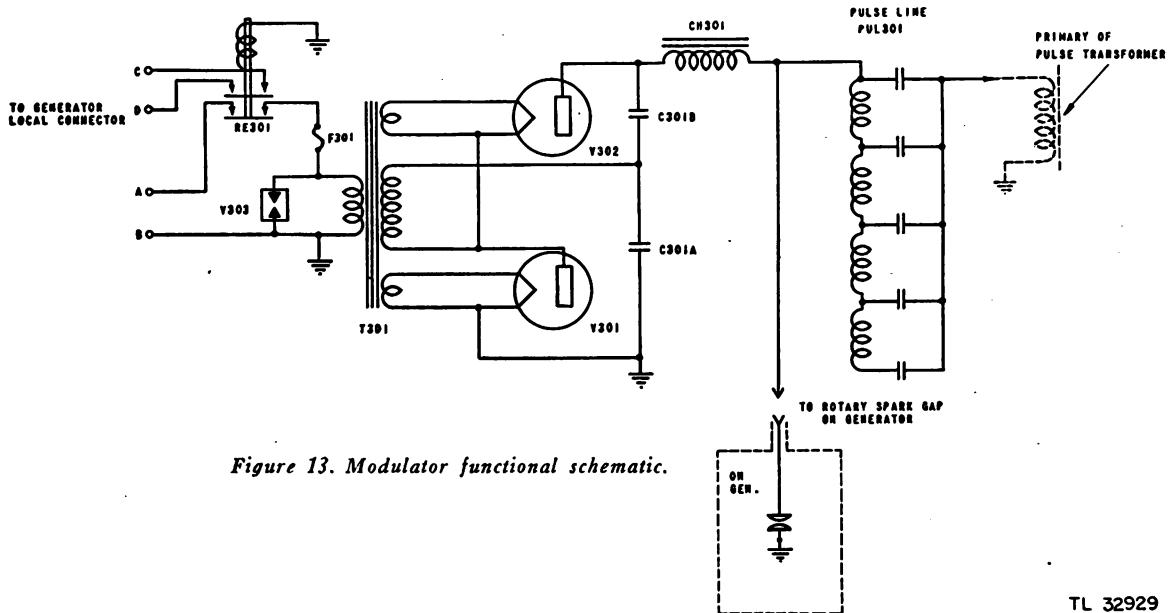
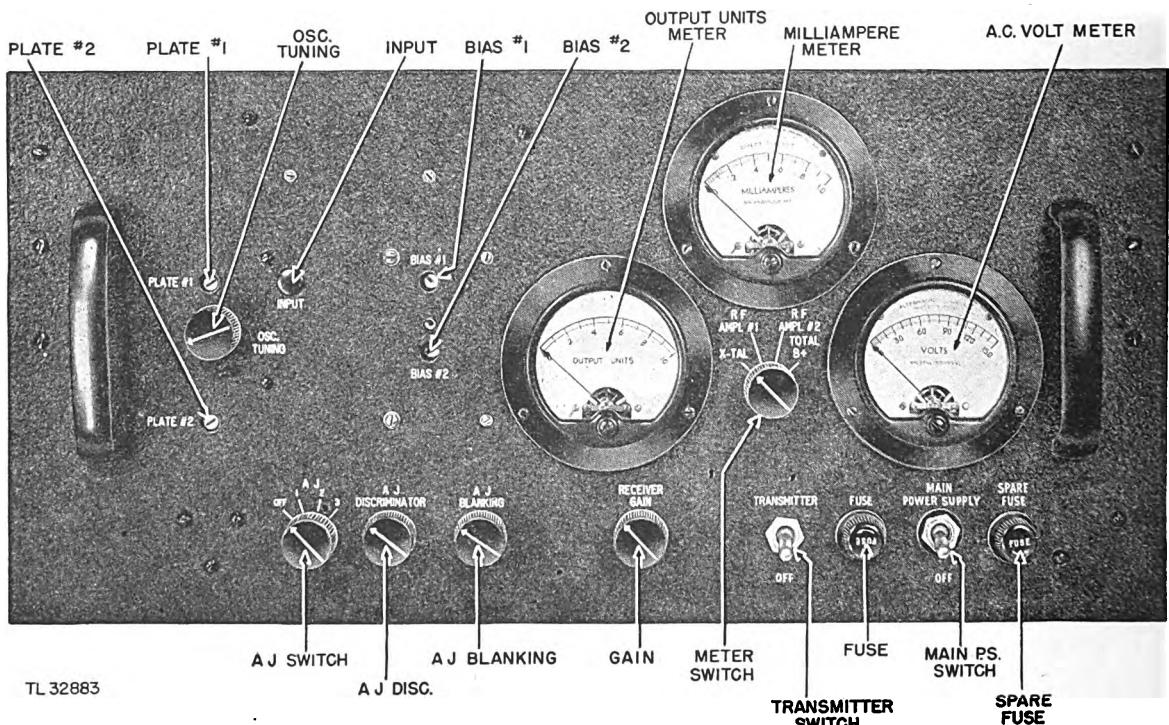
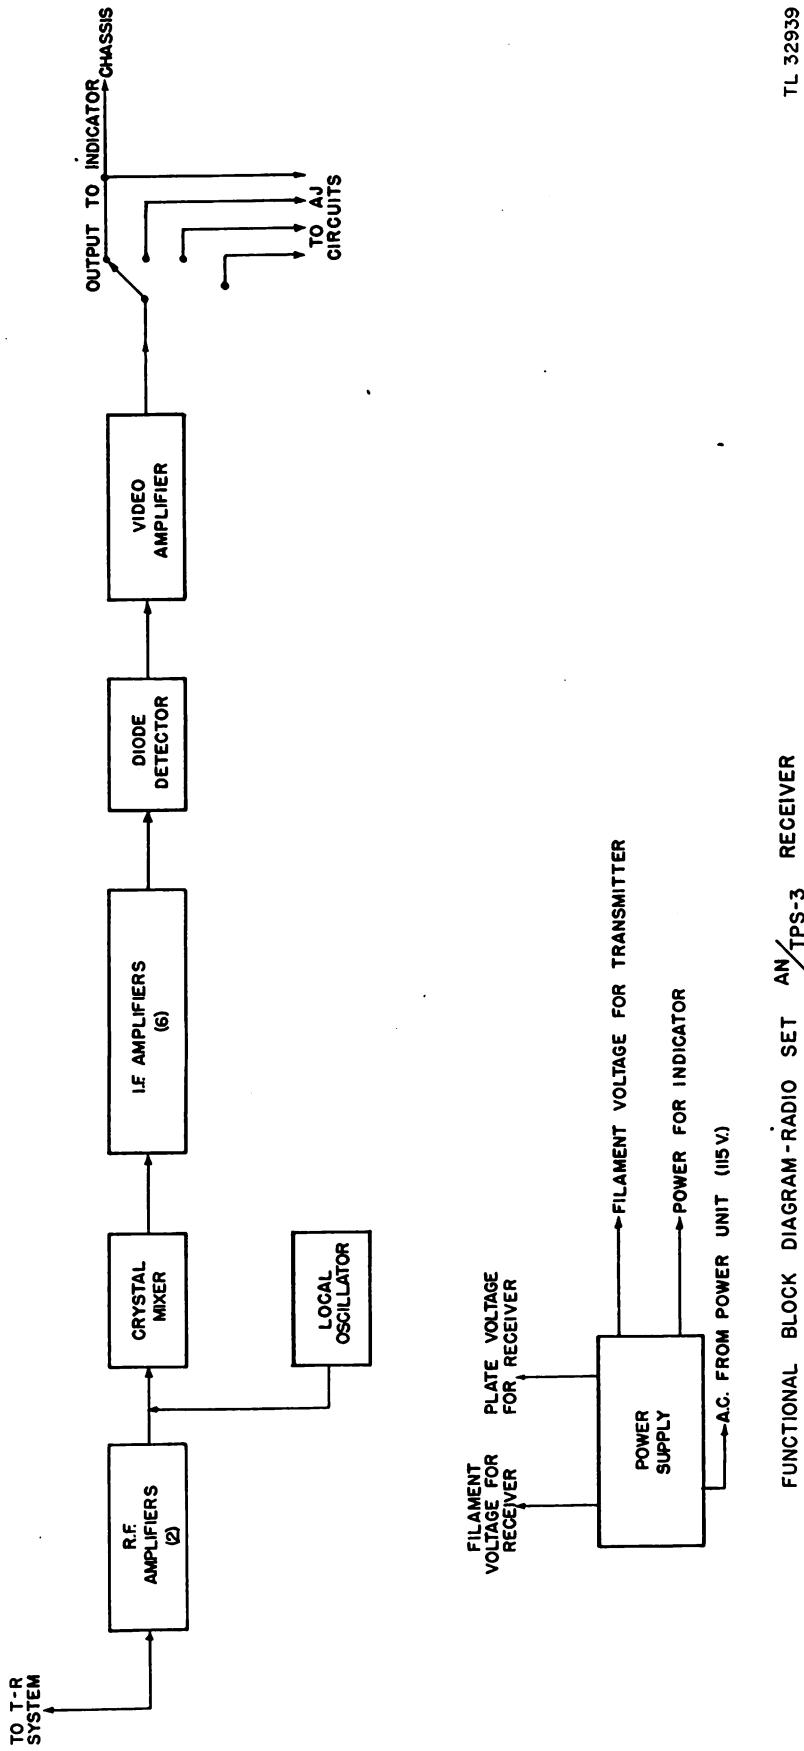
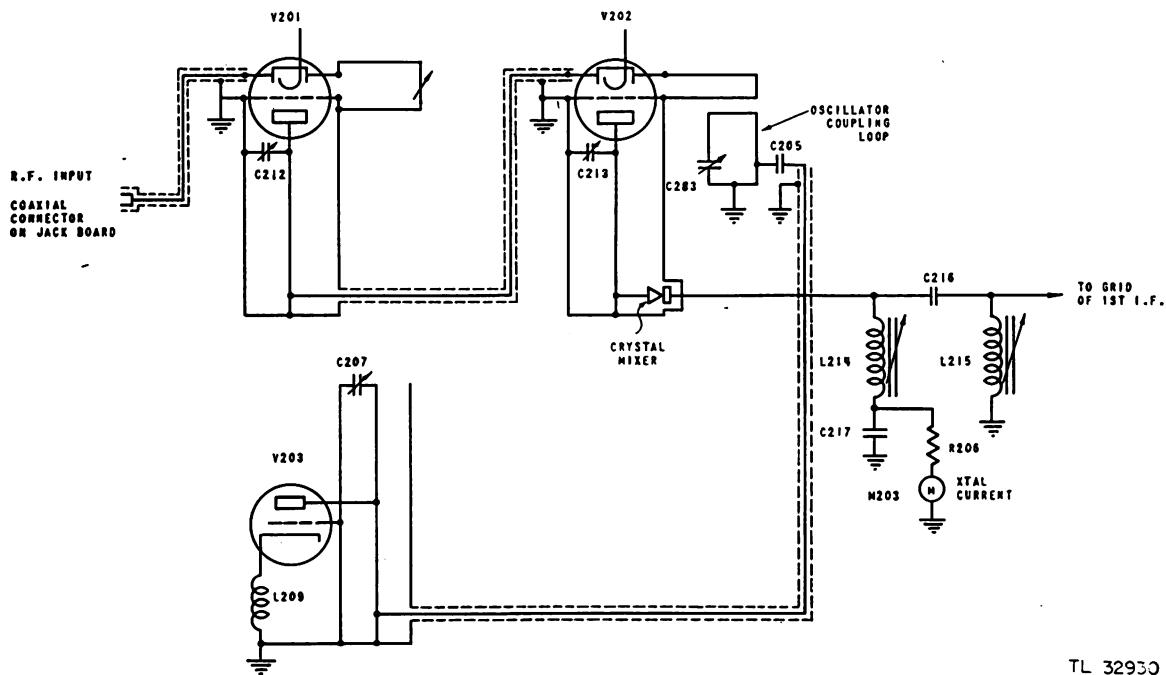

Figure 13. Modulator functional schematic.
Figure 19. Front panel of receiver.
Figure 20. Simplified block diagram of receiver.
Figure 22. R-F amplifier, oscillator and crystal mixer functional schematic.
- (1) Transmitting tube.
- (2) Transmission line, stub tuners, and stub supports.
- (3) T-R system.
- (4) Rotary joint.
- (5) Quarter-wave transformers.
- (6) Antenna.
b. Although the modulator (fig. 13) is not actually a part of the r-f system, it is described in this section because it is closely related to the operation of the transmitter. It consists of a voltage-doubler power supply, a d-c resonant charging circuit, and a pulse-forming line (network). A rotary spark gap on the generator shaft in the power unit completes the discharge path for the pulse forming line. An 8,000-volt, positive pulse is generated in the modulator and fed through a cable into the primary of the pulse transformer located in the console. The output of this 3 to 1 transformer is a 24,000-volt negative pulse which is fed to the cathode of the transmitting tube where radio frequency oscillations are set up.
near the motor generator, a rotary spark gap mounted on the end of the motor generator shaft, and a pulse transformer located in the main console. The metal modulator box is made up of two compartments, one of which is filled with oil. The oil compartment contains a high-voltage, 400-cycle transformer, several voltage doubling capacitors, a charging choke, and a pulse forming network. The other compartment contains the rectifier tubes and sockets, the relay, and a protective spark gap. Figure 13 shows a simplified diagram of the modulator and its associated high-voltage power supply.
c. *Power Supply.* (1) **SWITCHES.** To turn on the modulator, the modulator ON-OFF switch on the power unit must be thrown to the ON position. Two additional switches are located on the front panel of the receiver unit (fig. 19). Both switches must be turned to the ON position in order to generate the high-voltage pulse. These two, the **MAIN POWER SUPPLY** and the **TRANSMITTER** switches, when in the ON position, energize relay RE301, located in the modulator unit (fig. 13). This relay shorts out a compensating resistor located in the head of the generator. In this way, the voltage at the console remains constant and independent of the additional modulator load.
stationary pin, the voltage jumps the gap and allows a path for discharge of the pulse-forming line. The current flows from the line through the spark gap to ground and through the primary of the pulse transformer back to the pulse-forming line (fig. 13). This causes a positive voltage pulse across the pulse-transformer primary.
**12. GENERAL.** A block diagram of the receiver is shown in figure 20. The receiver contains the r-f amplifiers, local oscillator, crystal mixer, i-f amplifiers, detector, video amplifier tubes, and a special anti-jamming circuit which can be switched in when required. The main low-voltage power supply for both the indicator and the receiver, and the high-voltage supply for the cathode-ray tubes are located on the receiver chassis. A front view of the receiver chassis is shown in figure 19. Simplified schematic diagrams are shown in figures 22 to 27. For circuit details refer to the complete schematic diagram shown in figure 28.
a. The r-f signal from the T-R box is fed from the multiple-plug board to the input of r-f amplifier #1, tube V201, through a coaxial cable (figure 22). The outer conductor of this cable is connected to the grounded grid of the tube. The inner conductor is connected to the shell of tube V201. This shell is coupled to the cathode of the tube by a capacitor within the tube. The r-f signal is thus
a low-impedance point and feeds the signal to the input of tube V202 (fig. 22). The second r-f amplifier is similar to the first stage, except that the tuned metal loop between grid and cathode is non-adjustable. It is fixed-tuned to the center of the receiver tuning range. The r-f output of the second r-f amplifier can be read on meter M203 when the meter switch SW202 is in the r-f amplifier #2 position. The bias of this stage can be varied with potentiometer R203, the BIAS #2 control, on the front panel of the receiver. Capacitor C213, the PLATE #2 control, is used to tune the resonant plate circuit of the second r-f amplifier.
**14. LOCAL OSCILLATOR.** To generate the desired i-f signal, it is necessary to mix the r-f signal with the frequency of a local oscillator and tune the first i-f stage to the difference between the two frequencies. Tube V203 is used as a local oscillator (fig. 22). The plate of this tube is connected to a resonant, coaxial line or tank circuit which oscillates at the desired frequency, 30 megacycles above or below the r-f signal. The output of the plate circuit is coupled back to the grid circuit in a phase such that oscillations are sustained. The frequency of the oscillator can be varied by adjusting capacitor C207, the OSC. TUNING control
**15. CRYSTAL MIXER.** A rectifying type crystal mixer is connected to the resonant line at a low-impedance point (fig. 22). This crystal mixes the r-f and local oscillator signals. The output rectified signal is coupled through capacitor C216 to the grid of the first i-f stage through a network tuned to 30 megacycles. Only the i-f signal gets through to the i-f amplifiers. The fitting which holds the crystal provides a capacity by-pass path to ground for the r-f currents. Coils L214 and L215, and capacitor C216 form a critically coupled, double-tuned i-f circuit which matches the crystal impedance to the grid impedance of the first i-f amplifier. Capacitor C217 and resistor R206 form a decoupling network feeding meter M203, so that